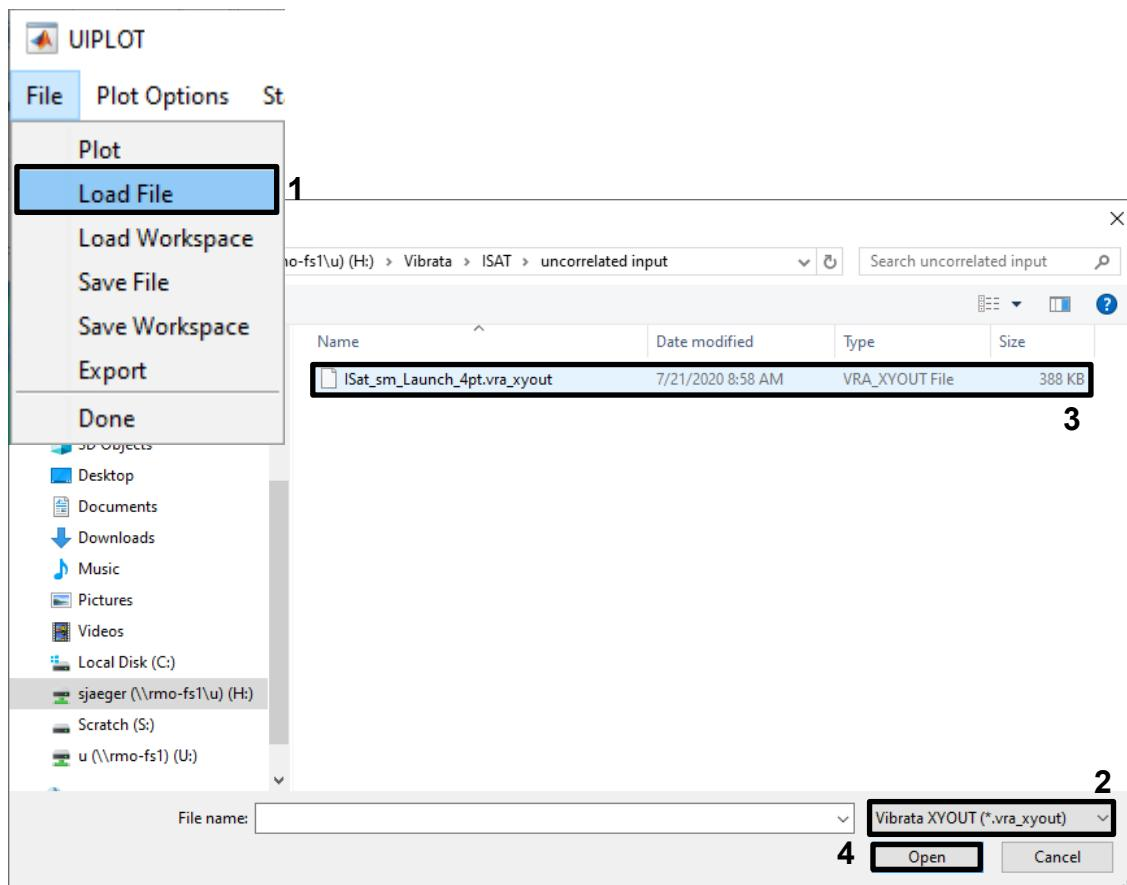
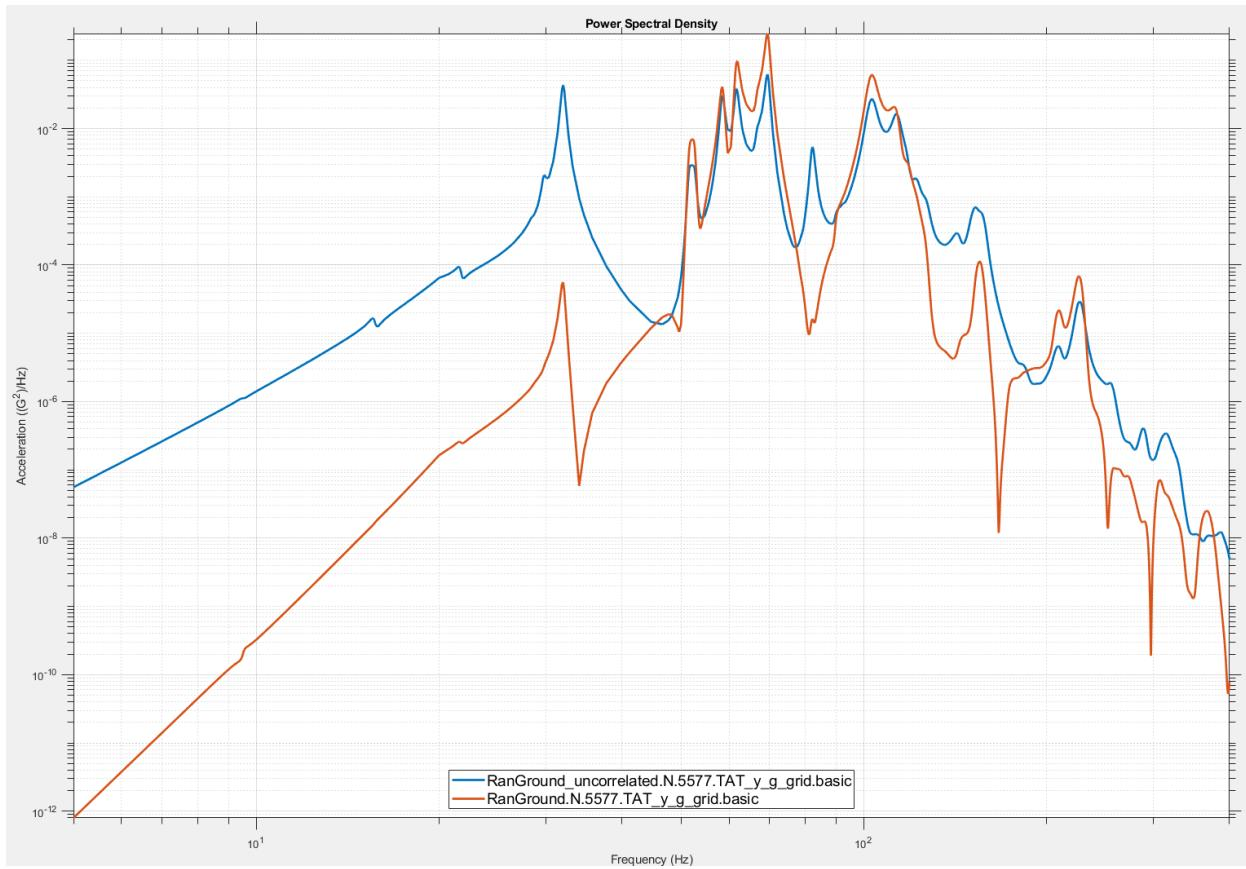

Figure 4-58. Add the rigid-base results to those available for plotting.
Figure 4-59. The Y-acceleration responses for the two events are very different.
8. Compare the Y-acceleration response PSD from this case to the one from the rigid-base event. On the *Output* tab, click the **PLOT XY...** button to bring up the *UIPLOT* dialog. It will show the functions for the current event, which is the four-point model with uncorrelated inputs. Use the *File / Load File* menu to make the results of the rigid-base event available (Figure 4-58). Plot the *TATy* function from both events (Figure 4-59). Again, they are clearly quite different.